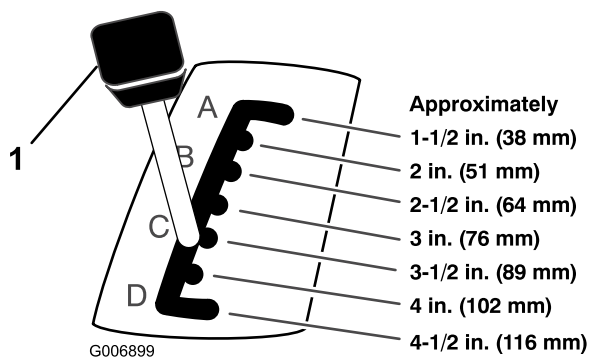

Figure 7
5. Pull on the height-of-cut lever on the tractor and move it to the desired position (Figure 7).